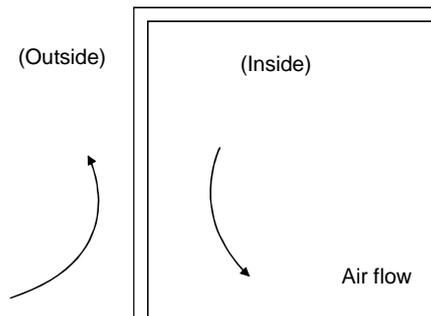
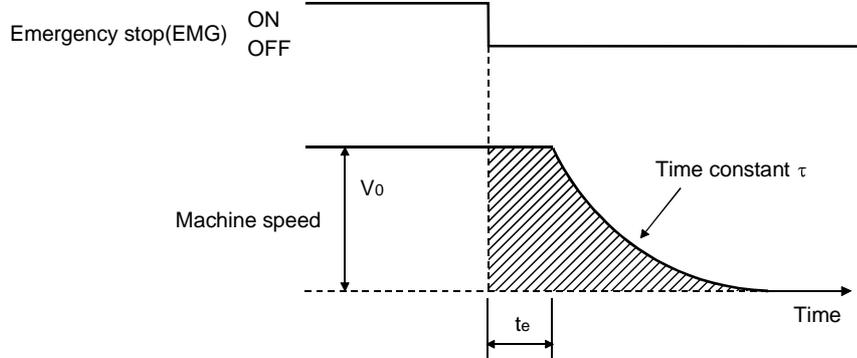

Fig. 12.4 Temperature distribution in enclosure
Fig. 12.5 Dynamic brake operation diagram
Fig. 12.4 shows the pattern in which the servo motor comes to a stop when the dynamic brake is operated. Use Equation 12.2 to calculate an approximate coasting distance to a stop. The dynamic brake time constant τ varies with the servo motor and machine operation speeds. (Refer to Fig. 12.5)
- τ : Brake time constant (Fig. 12.5) [s]
- t_e : Delay time of control section (Fig. 12.4)..... [s]